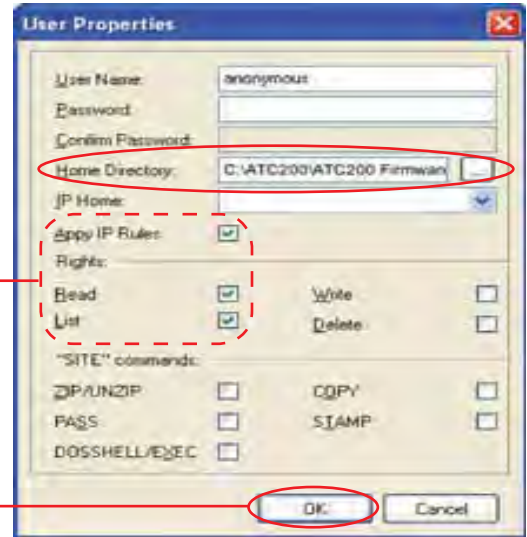

Figure C-1. Add New User Dialog Settings for FTP Server.
1. Create a new user named **anonymous**. Enable the **Apply IP Rules** and activate the **Read** and **List** rights, deactivating all other settings as shown in Figure C-1.
8. Click on the **Home Directory** browse ellipses to navigate to the **ATC200** directory (Figure C-1).
9. Click on **OK** (Figure C-1). You should now see an icon for the new user in the **User Setup** dialog box display area.